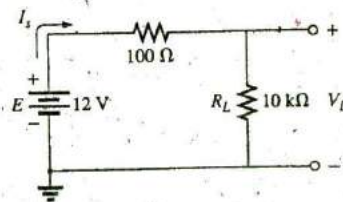

FIG. 6.109
40. For the network in Fig. 6.109: